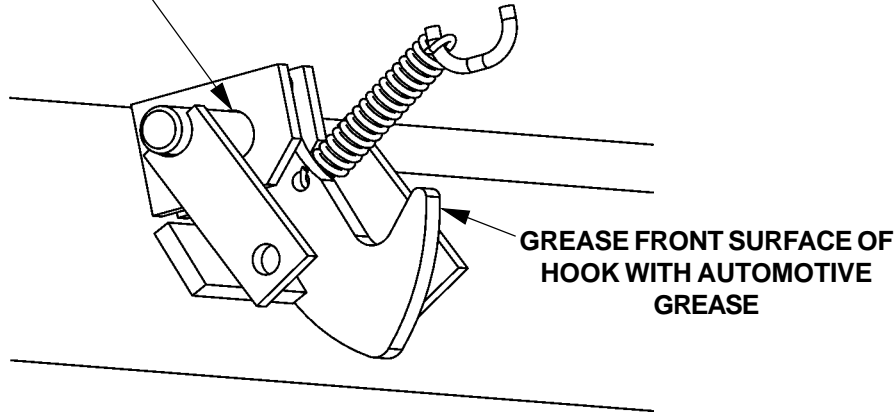

FIG. 13
2. When the Liftgate is stowed, see if **Platform Loop** is positioned above the **Safety Hook** as shown in **FIG. 13**.